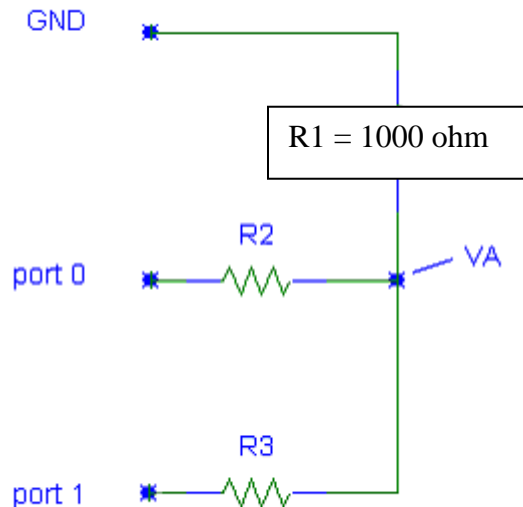

Figure 1: A Two-Bit DAC (For ECE 5330 students a 4-bit DAC is also required)
The Pre-Lab Questions require circuit analysis to derive the values for resistors R_2 and R_3 in Figure 1. For this lab, use a value of 1000 Ohms for R_1 . This lab description sets up two analyses of equivalent circuits for the digital values $2'b11$ and $2'b00$. You will have to analyze the circuits for the remaining two values and solve a system of equations to determine the unknown resistor values.
1. Construct the circuit in Figure 1 with appropriate values of resistance. Do NOT connect the circuit to the MCU yet.
Examine the Figure 1 on page 1 and answer the following questions. Be sure to include your work and show units, as appropriate, on your answers. 2+2+6 points each, 10 points possible.
3. Derive the values for R_2 and R_3 in Figure 1 as defined previously in the lab handout. If you do this via Matlab or Maple, please include the results and the code used.